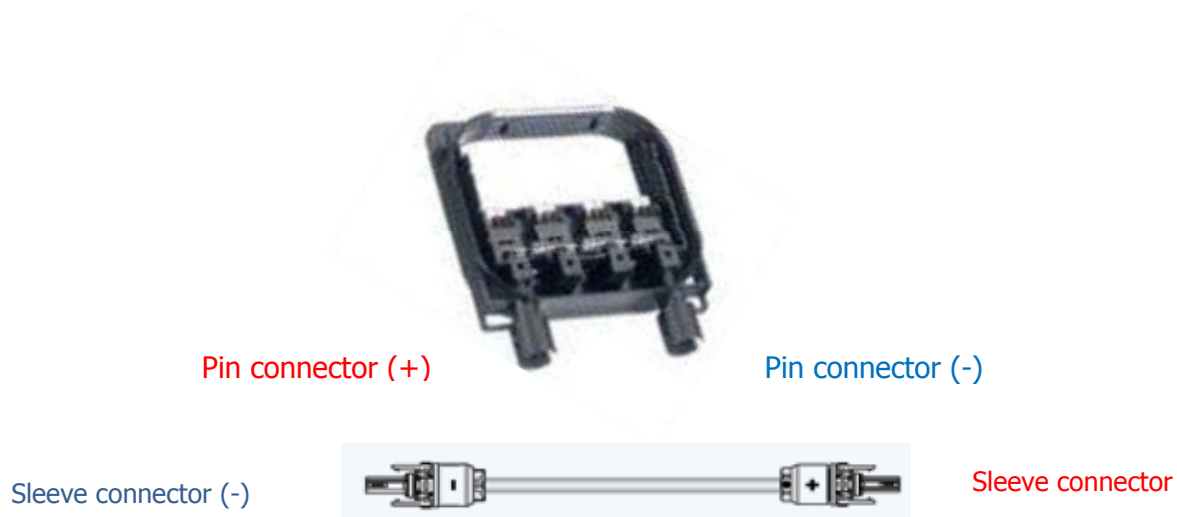

Fig. 5: Connection box and cable
- Always lift and carry the modules using both hands. Do not use the connection box or cable to lift the module; **do not pull** on the connection cable at any time. (See Fig. 5 on page 9).
- The modules are wired directly via the plug socket fitted to the connection box (Fig. 5):